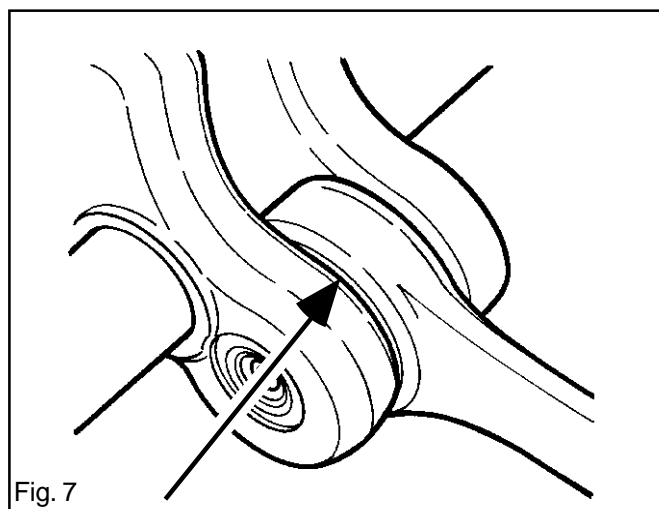

Fig. 7
- 2. That the big-end bearing does not have any score marks or is discoloured on the sides. See fig. 7.